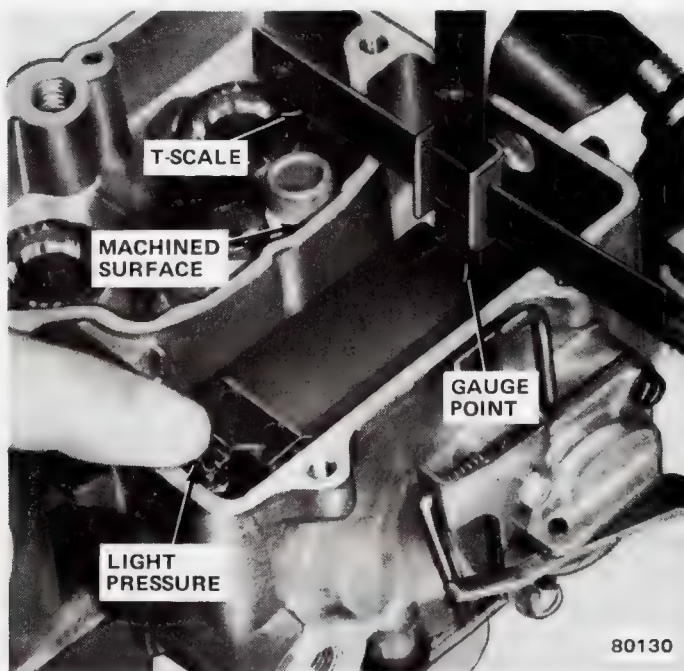

Fig. 1J-105 Dry Float Adjustment
(1) Remove air horn assembly and gasket. Raise float by pressing down on float tab until fuel inlet needle is lightly seated.
(2) Use T-scale to measure distance from fuel bowl machined surface to flat surface of either corner of float at free end. Refer to Specifications for correct setting.
(3) Bend float tab to adjust. Hold fuel inlet needle off its seat while adjusting to prevent damage to Viton-tipped needle (fig. 1J-105).